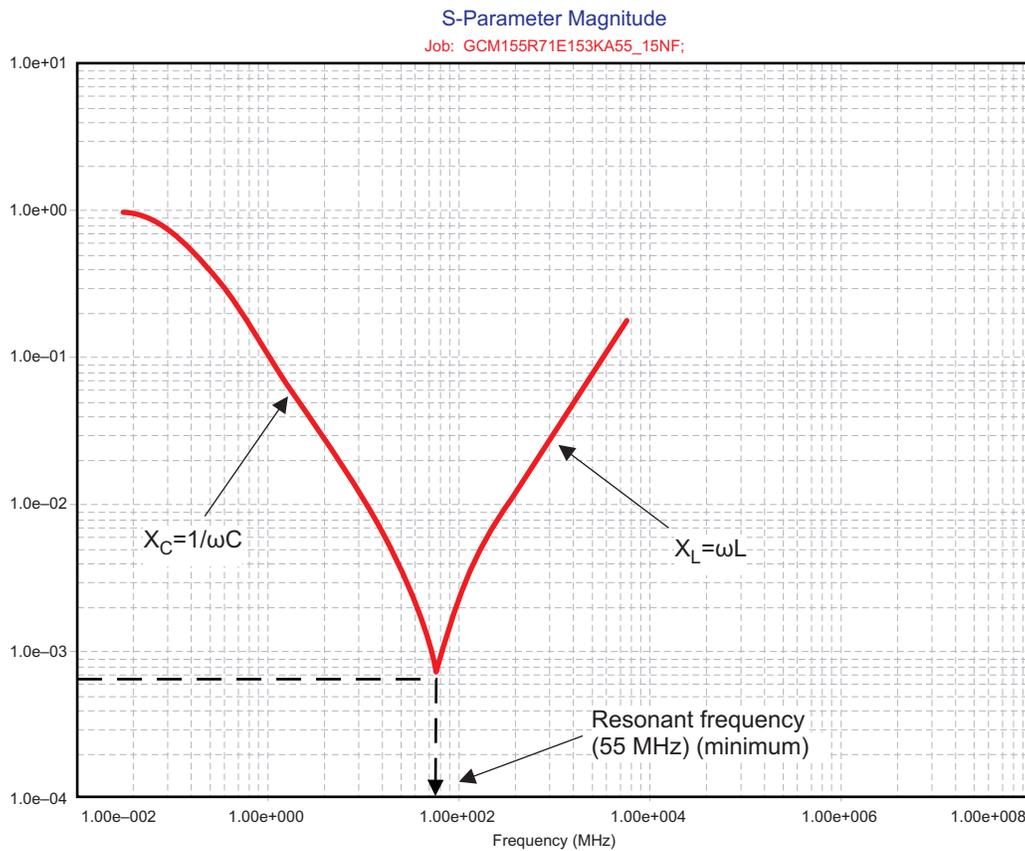

图 8-14. Typical Impedance Profile of a Capacitor
图 8-14 shows the resonant frequency response of a typical capacitor with a self-resonant frequency of 55 MHz. The impedance of the capacitor is a combination of its series resistance and reactive capacitance and inductance as shown in the equation above.
Keep radio frequency (RF) sensitive circuitry (like GPS receivers, GSM/WCDMA, Bluetooth/WLAN transceivers, frequency modulation (FM) radio) away from high-speed ICs (the device, power and audio manager, chargers, memories, and so forth) and ideally on the opposite side of the PCB. For improved protection it is recommended to place these emission sources in a shield can. If the shield can have a removable lid (two-piece shield), ensure there is low contact impedance between the fence and the lid. Leave some space between the lid and the components under it to limit the high-frequency currents induced in the lid. Limit the shield size to put any potential shield resonances above the frequencies of interest; see 图 8-14, *Typical Impedance Profile of a Capacitor*.